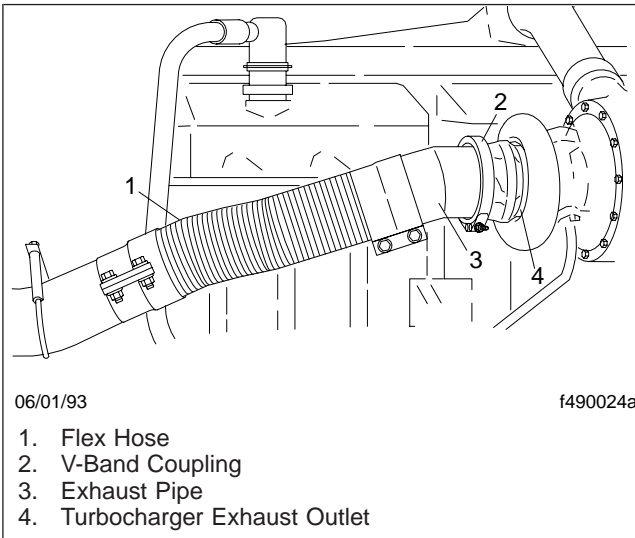

Fig. 2, V-Band Coupling and Flex Hose
2. Inspect the exhaust flex hose (see Fig. 2) for leakage, wear, or damage. Replace with new parts if replacement is needed.
3. Check for leakage at the V-band coupling, which attaches the exhaust pipe to the turbocharger exhaust outlet. See Fig. 2.